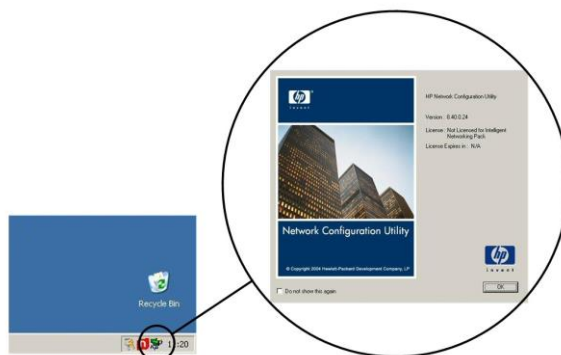

Figure 3.1 HP Network Configuration Utility
1. The HP network configuration software will run as an application in the taskbar when Windows Server has fully booted (Figure 3.1). If the icon is not present ensure the 'HP Teaming' service is started and running.